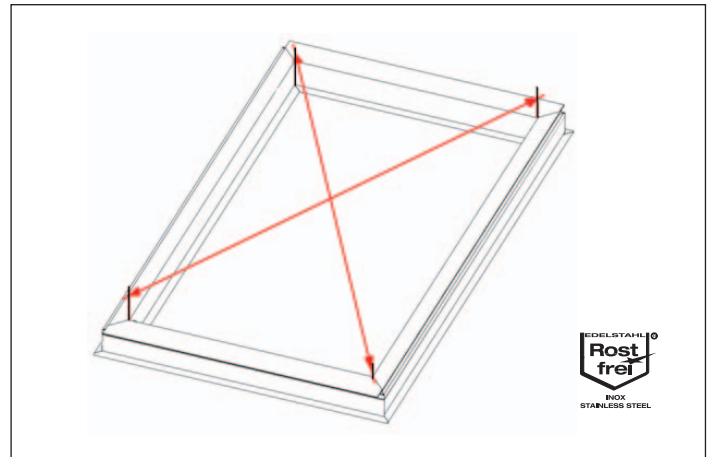

Fig. 144 Then check the diagonals and realign, if necessary
3. Check the diagonals and realign, if necessary (Fig. 144)